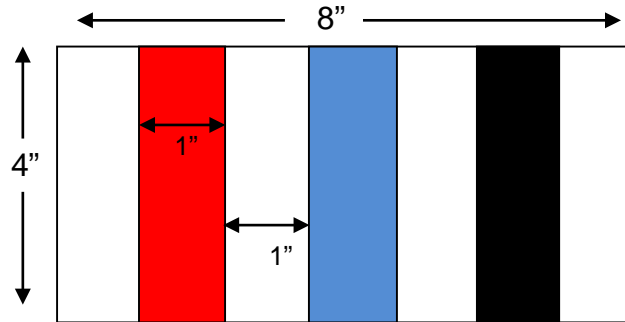

Figure 1
- 4.2 Mark one test panel with the acrylic paint. Include one line of each color. Make lines approximately one inch wide and at least one inch apart (figure 1).